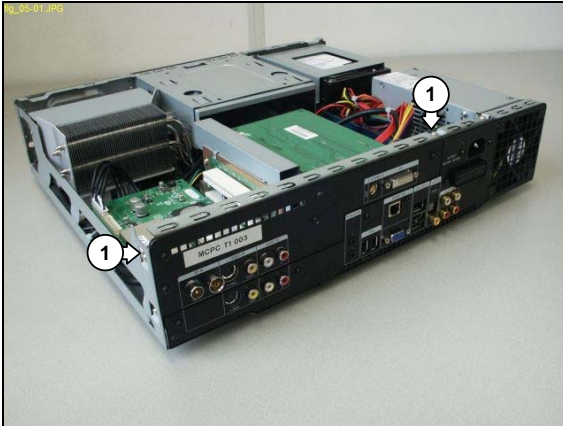

Figure 12.5-1
2. Remove the 2 mounting screws (1) from the riser card subassembly. See Figure 12.5-1.